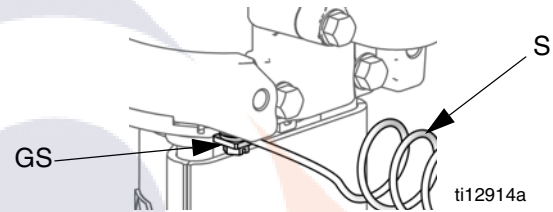

FIG. 2. Ground screw and wire
Pump: See FIG. 2. Verify that the ground screw (GS) is attached and tightened securely to the air motor. Connect the other end of the ground wire (S) to a true earth ground.